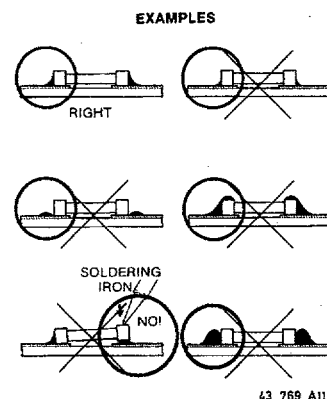

Fig. 4
- The quantity of solder must be proportional with the size of the solder land. If the quantity is too great, the SMD might crack or the solder lands might be torn loose from the printed board (see Fig. 4).